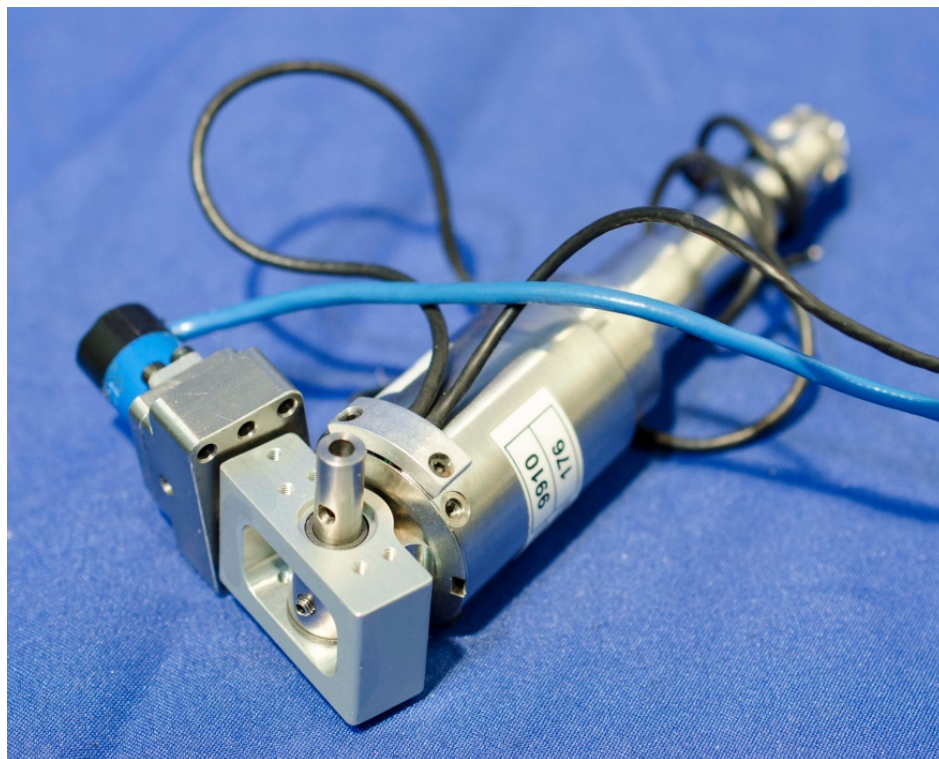

Figure 9-10. Insert vertical shaft through pivot block
- 9.2.2.6 Insert the Vertical Shaft (472-4745) through the Block Pivot (472-4743) (Figure 9-10).